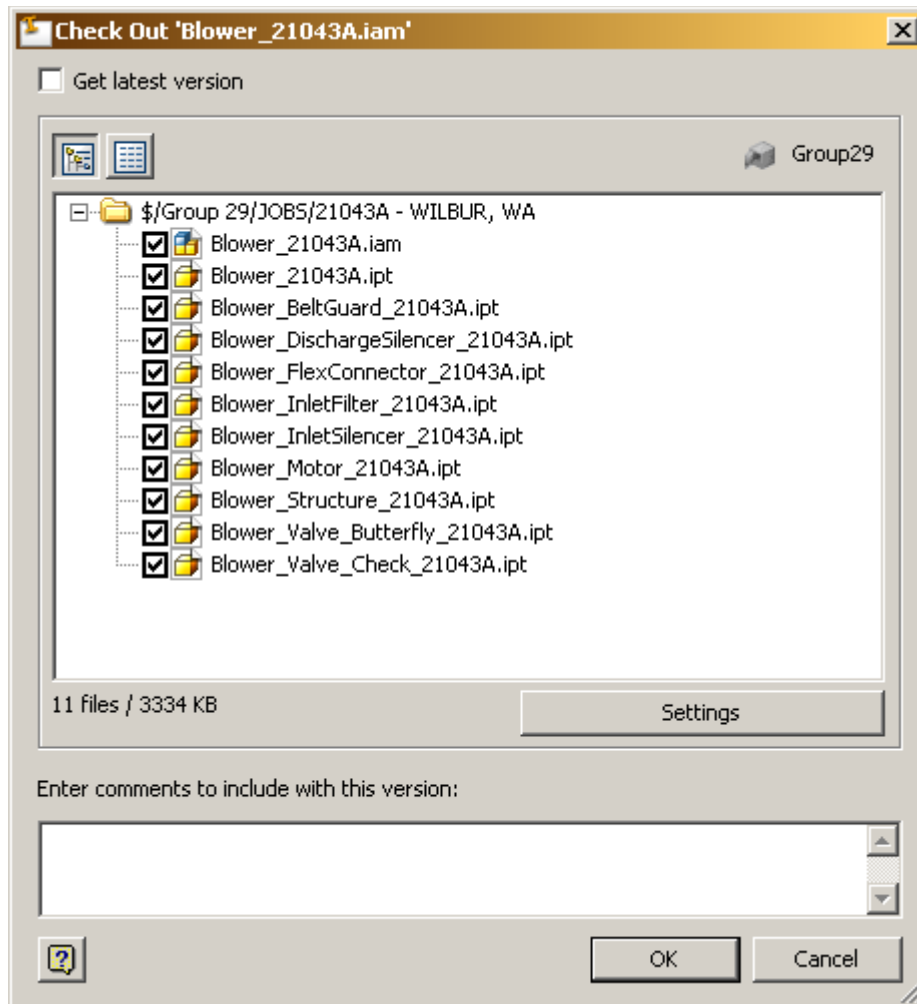
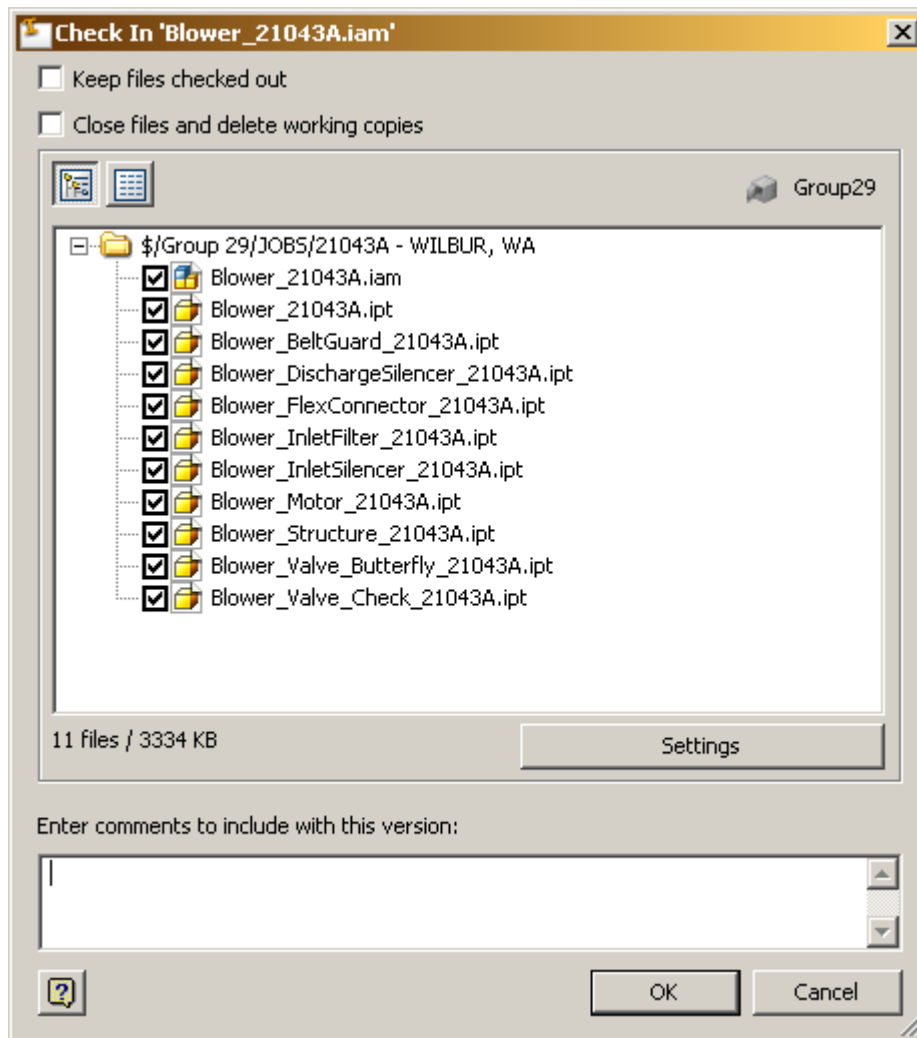
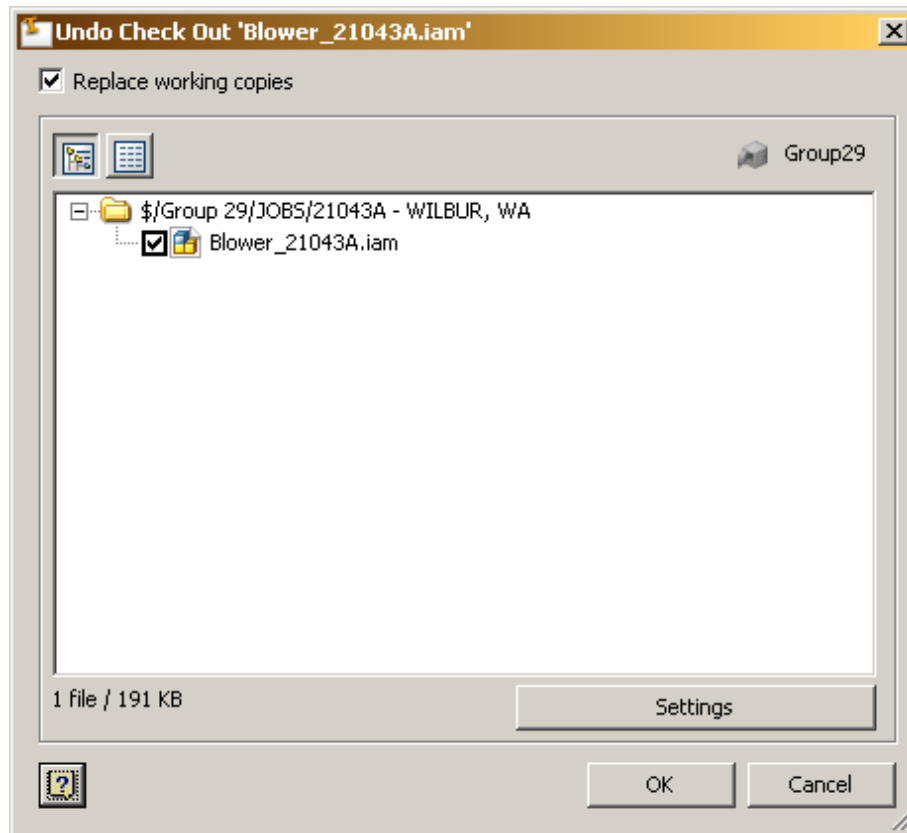

Figure 11 - The File Check Out Dialog
Figure 12 - The File Check In Dialog
Figure 13 - The Undo Check Out Dialog
2. If the user has permission to check out the file and the file is not currently checked out to another user, then opening the file from the vault will typically open the Check Out dialog (see Figure 11). Clicking OK will check out the file as it opens. Clicking Cancel will still open the file but it will not check out the file.
Either of these methods will open the Check Out dialog shown in Figure 11. If the file being opened is referencing other files (i.e. it has children), then the dialog can be configured to check out the children as well by clicking the Settings button. The file being checked out in Figure 11 (Blower_21043A.iam, an assembly file) has children (its assembly components) and the Check Out dialog has been configured to include those children in the check-out process. Individual files can be selected or unselected for check-out as needed by clicking the box next to each filename.
Any of these methods will open the “Check In” dialog shown in Figure 12. If the file being checked in is referencing other files (i.e. it has children), then the dialog can be configured to check in the children as well by clicking the Settings button. Figure 12 shows the Check In dialog configured to include the check-in of the children of the Blower_21043A.iam assembly file. As with the Check Out dialog, individual files can be selected or unselected for check-in as needed by clicking the box next to each filename.
The Undo Check Out command opens the Undo Check Out dialog as shown in Figure 13. As with the Check Out and Check In dialogs, the Undo Check Out dialog can be configured through the settings button to include parents or children if needed. Figure 13 shows the Undo Check Out dialog for the Blower_21043A.iam assembly without including the assembly’s children as compared with Figure 11 and Figure 12.